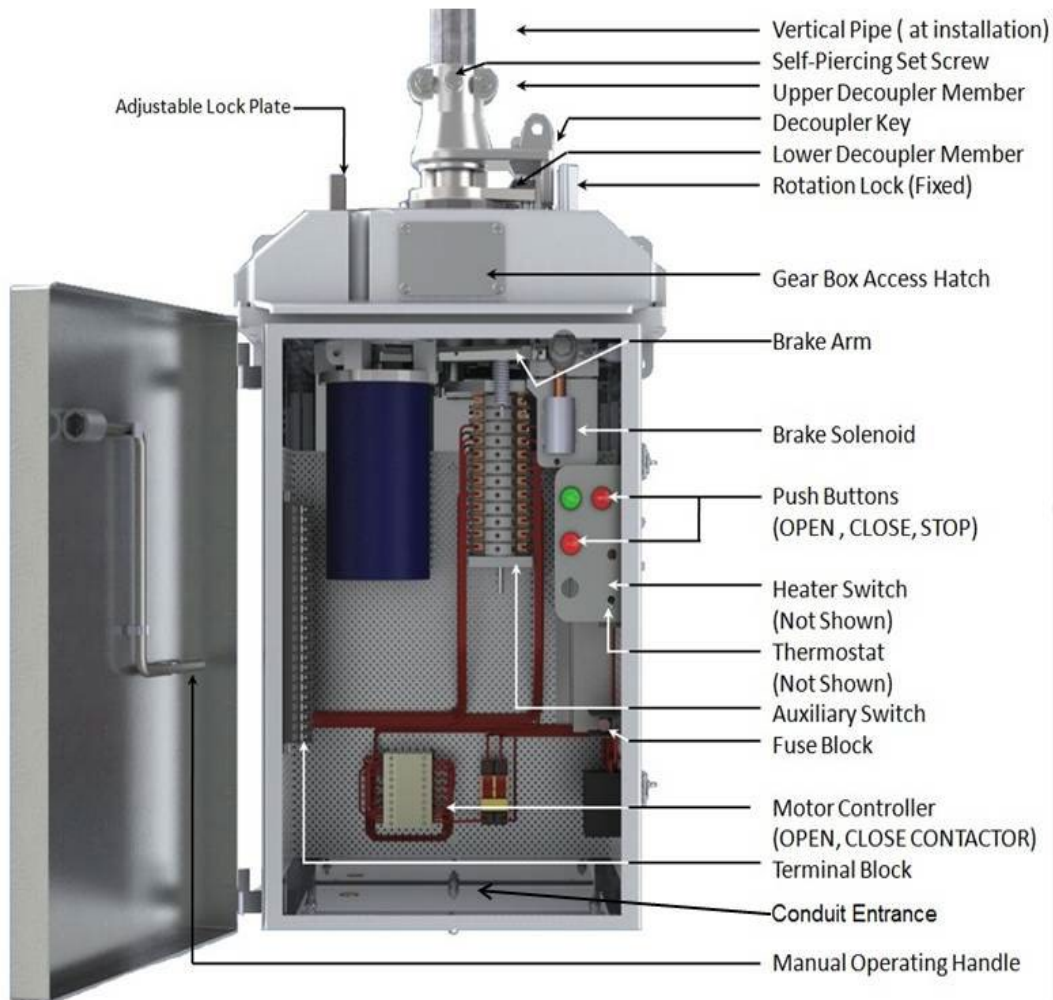

Figure 1 - Part Identification
The static brake is an electro-mechanical mechanism comprised of a brake pad, brake arm, spring and solenoid. The spring provides the mechanical force necessary to depress the brake and keep the motor operator from turning. When the motor is energized, the brake solenoid, seen in Figure 1, depresses the spring thereby releasing the brake and allowing the motor operator to function.
2. Decouple as shown in Figure 3 and connect the VM-1 mechanism for electrical operation as shown on the wiring diagram drawing. Refer to Figure 1 for conduit entry into the cabinet.